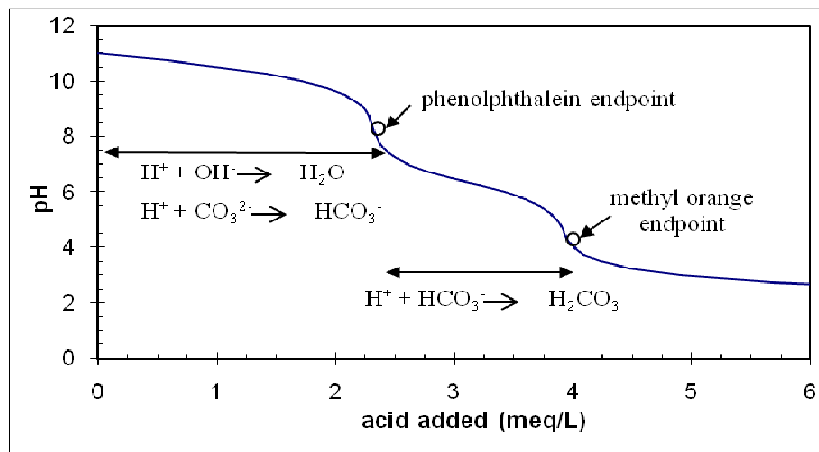

Figure 2. Alkalinity Titration Curve
- Results and Discussion: This section should include a presentation of reduced data (i.e. quantities calculated from raw data) in tabular or graphical format. Refer Tables and Graphs in text and include a title (Table 1, Table 2 or so; Figure 1, Figure 2, or so). Graph axes should **be labeled always with units.**
Alkalinity is measured by titrating a sample with acid. A titration curve of a bicarbonate containing water is presented in Figure 2.